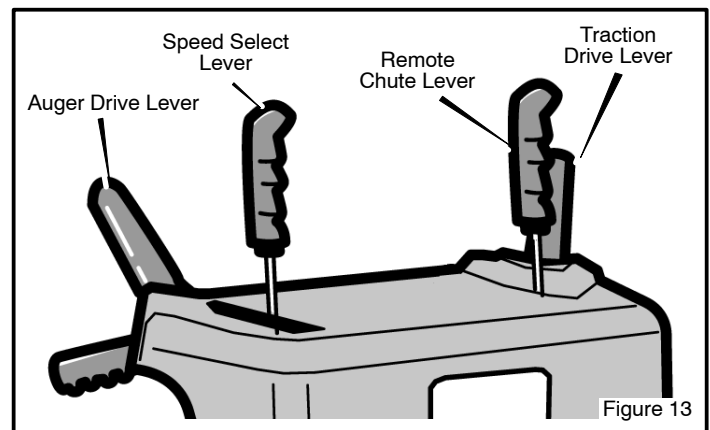

Figure 13
1. To stop throwing snow, release the **auger drive lever**. (see Figure 13).
2. Push the **remote chute lever** forward to discharge the snow down. Pull the **remote chute lever** back to discharge the snow high and far (see Figure 13).
3. Engage the **traction drive lever** (see Figure 13). As the snowthrower starts to move, maintain a firm hold on the handles and guide the snowthrower along the cutting path. Do not attempt to push the snowthrower.
1. Push down the **auger driver lever** (right hand). See Figure 13.